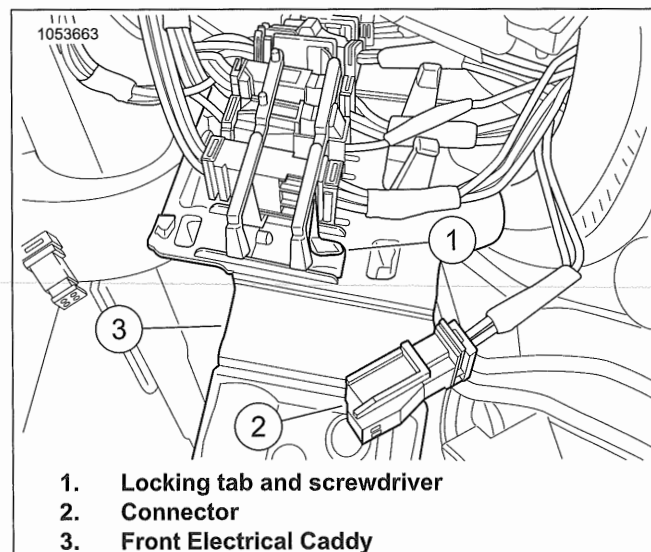

Figure 7-144. Center Fold Unlocked Connector
- c. See Figure 7-144. Remove connector (2).